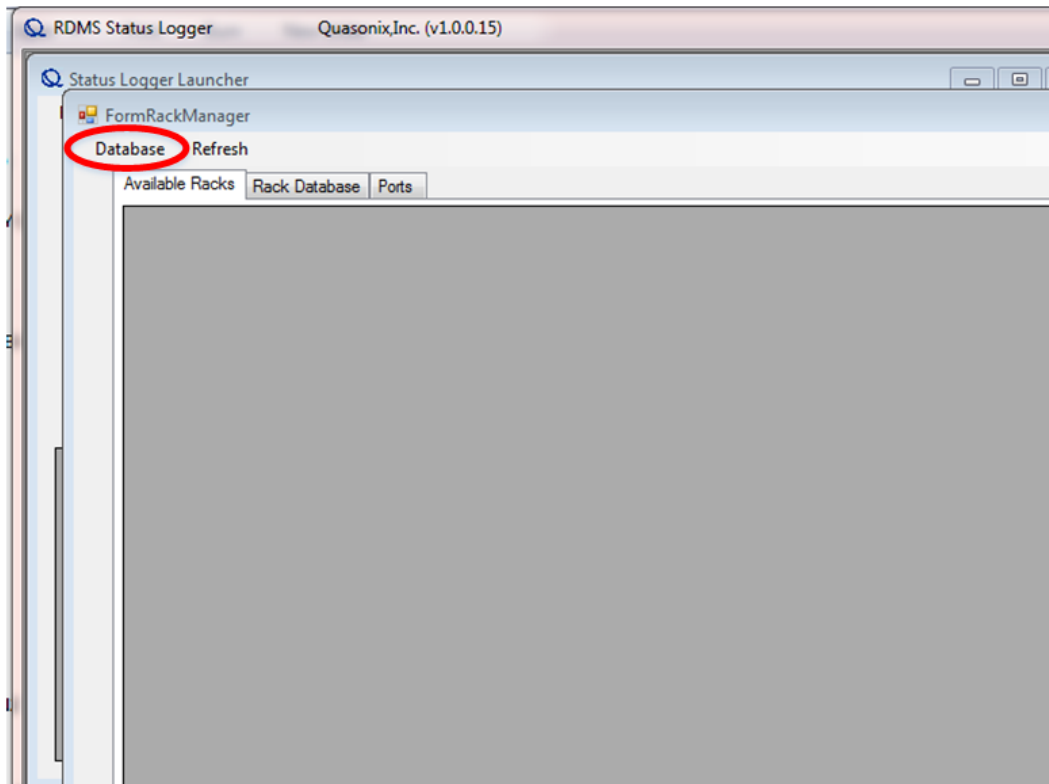

Figure 5: FormRackManager, Database Menu
2. In the FormRackManager screen, select the Database menu, shown in Figure 5, then select the Import from Master option.